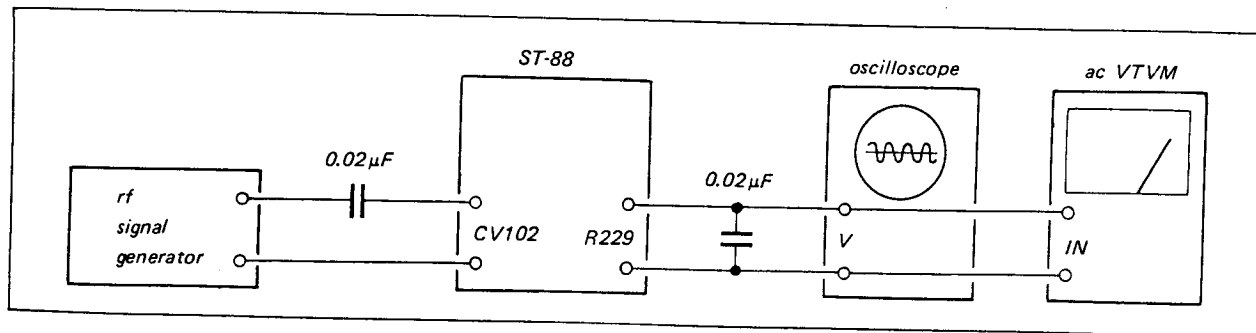

Fig. 3-5. Fm i-f and discriminator alignment test setup by rf signal generator
1. With the equipment connected as shown in Fig. 3-5, set the signal-generator controls as follows: